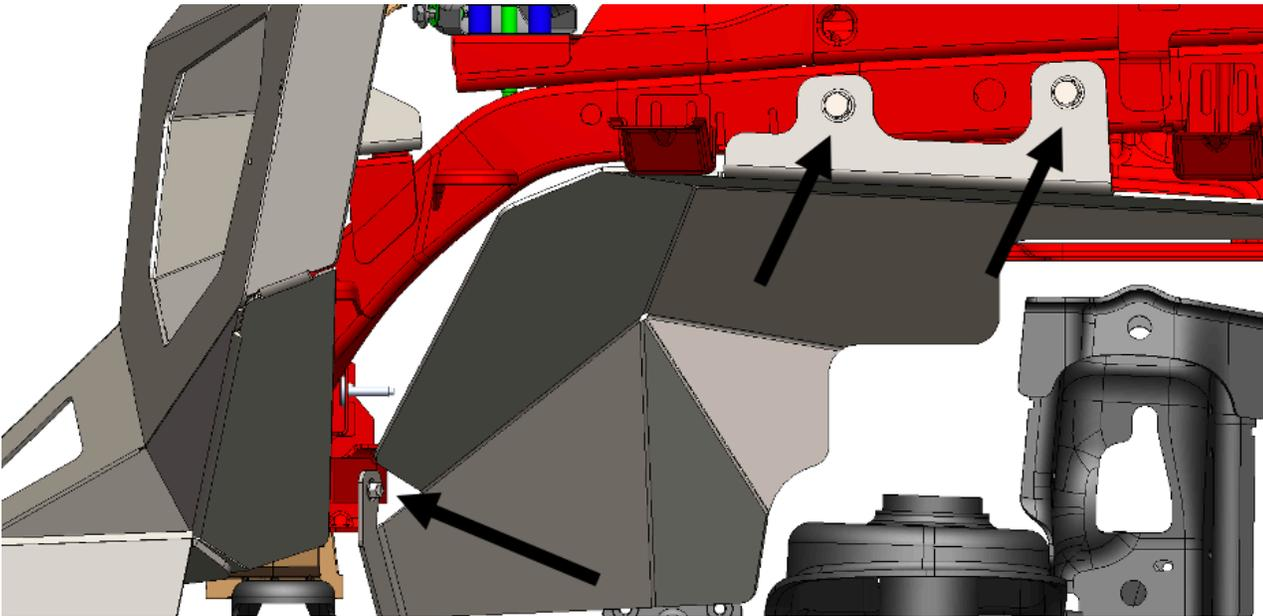
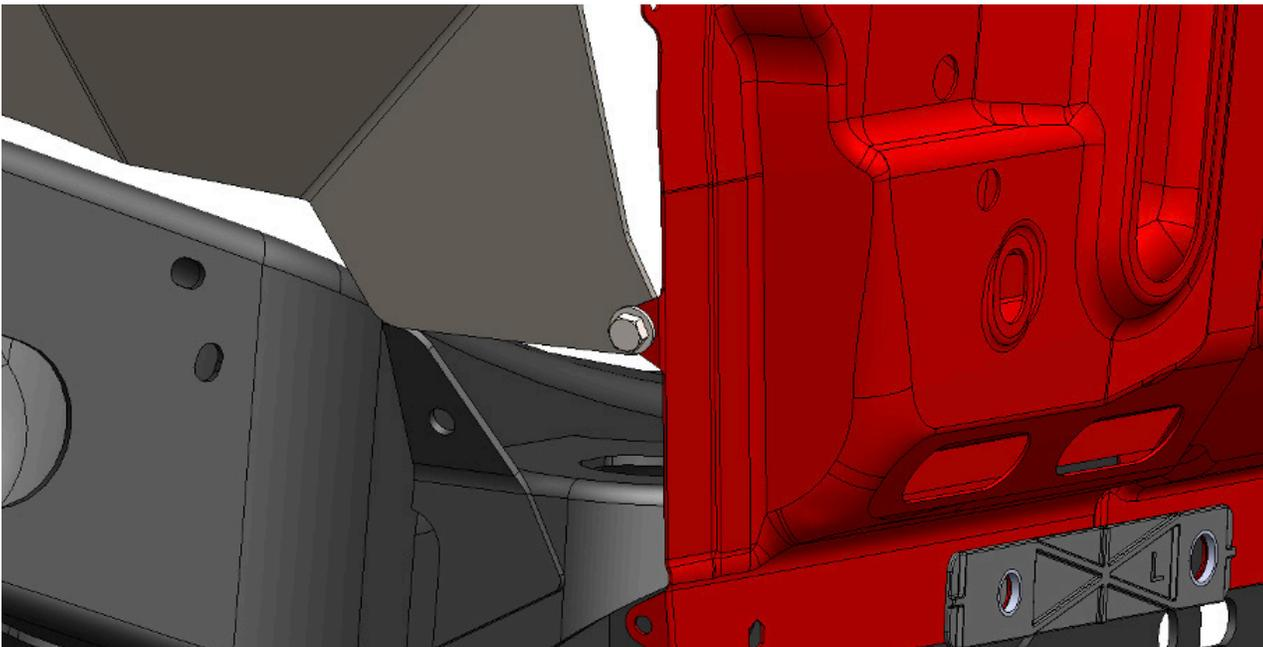

Figure 26
Figure 27
23. Install the inner fenders (22831 and 22832) using the rest of the 50160-HW kit. Use the provided two (2) 3/8" hex head bolts with washers to fasten the top to the rivnuts from step 22. Use the 5/16" self tapping screw to fasten the front of the inner fender to the body mount panel (Figure 26). Attach the rear mounting point to the OE fender mount using the provided 1/4" hex head bolt, washers and nut (Figure 27).